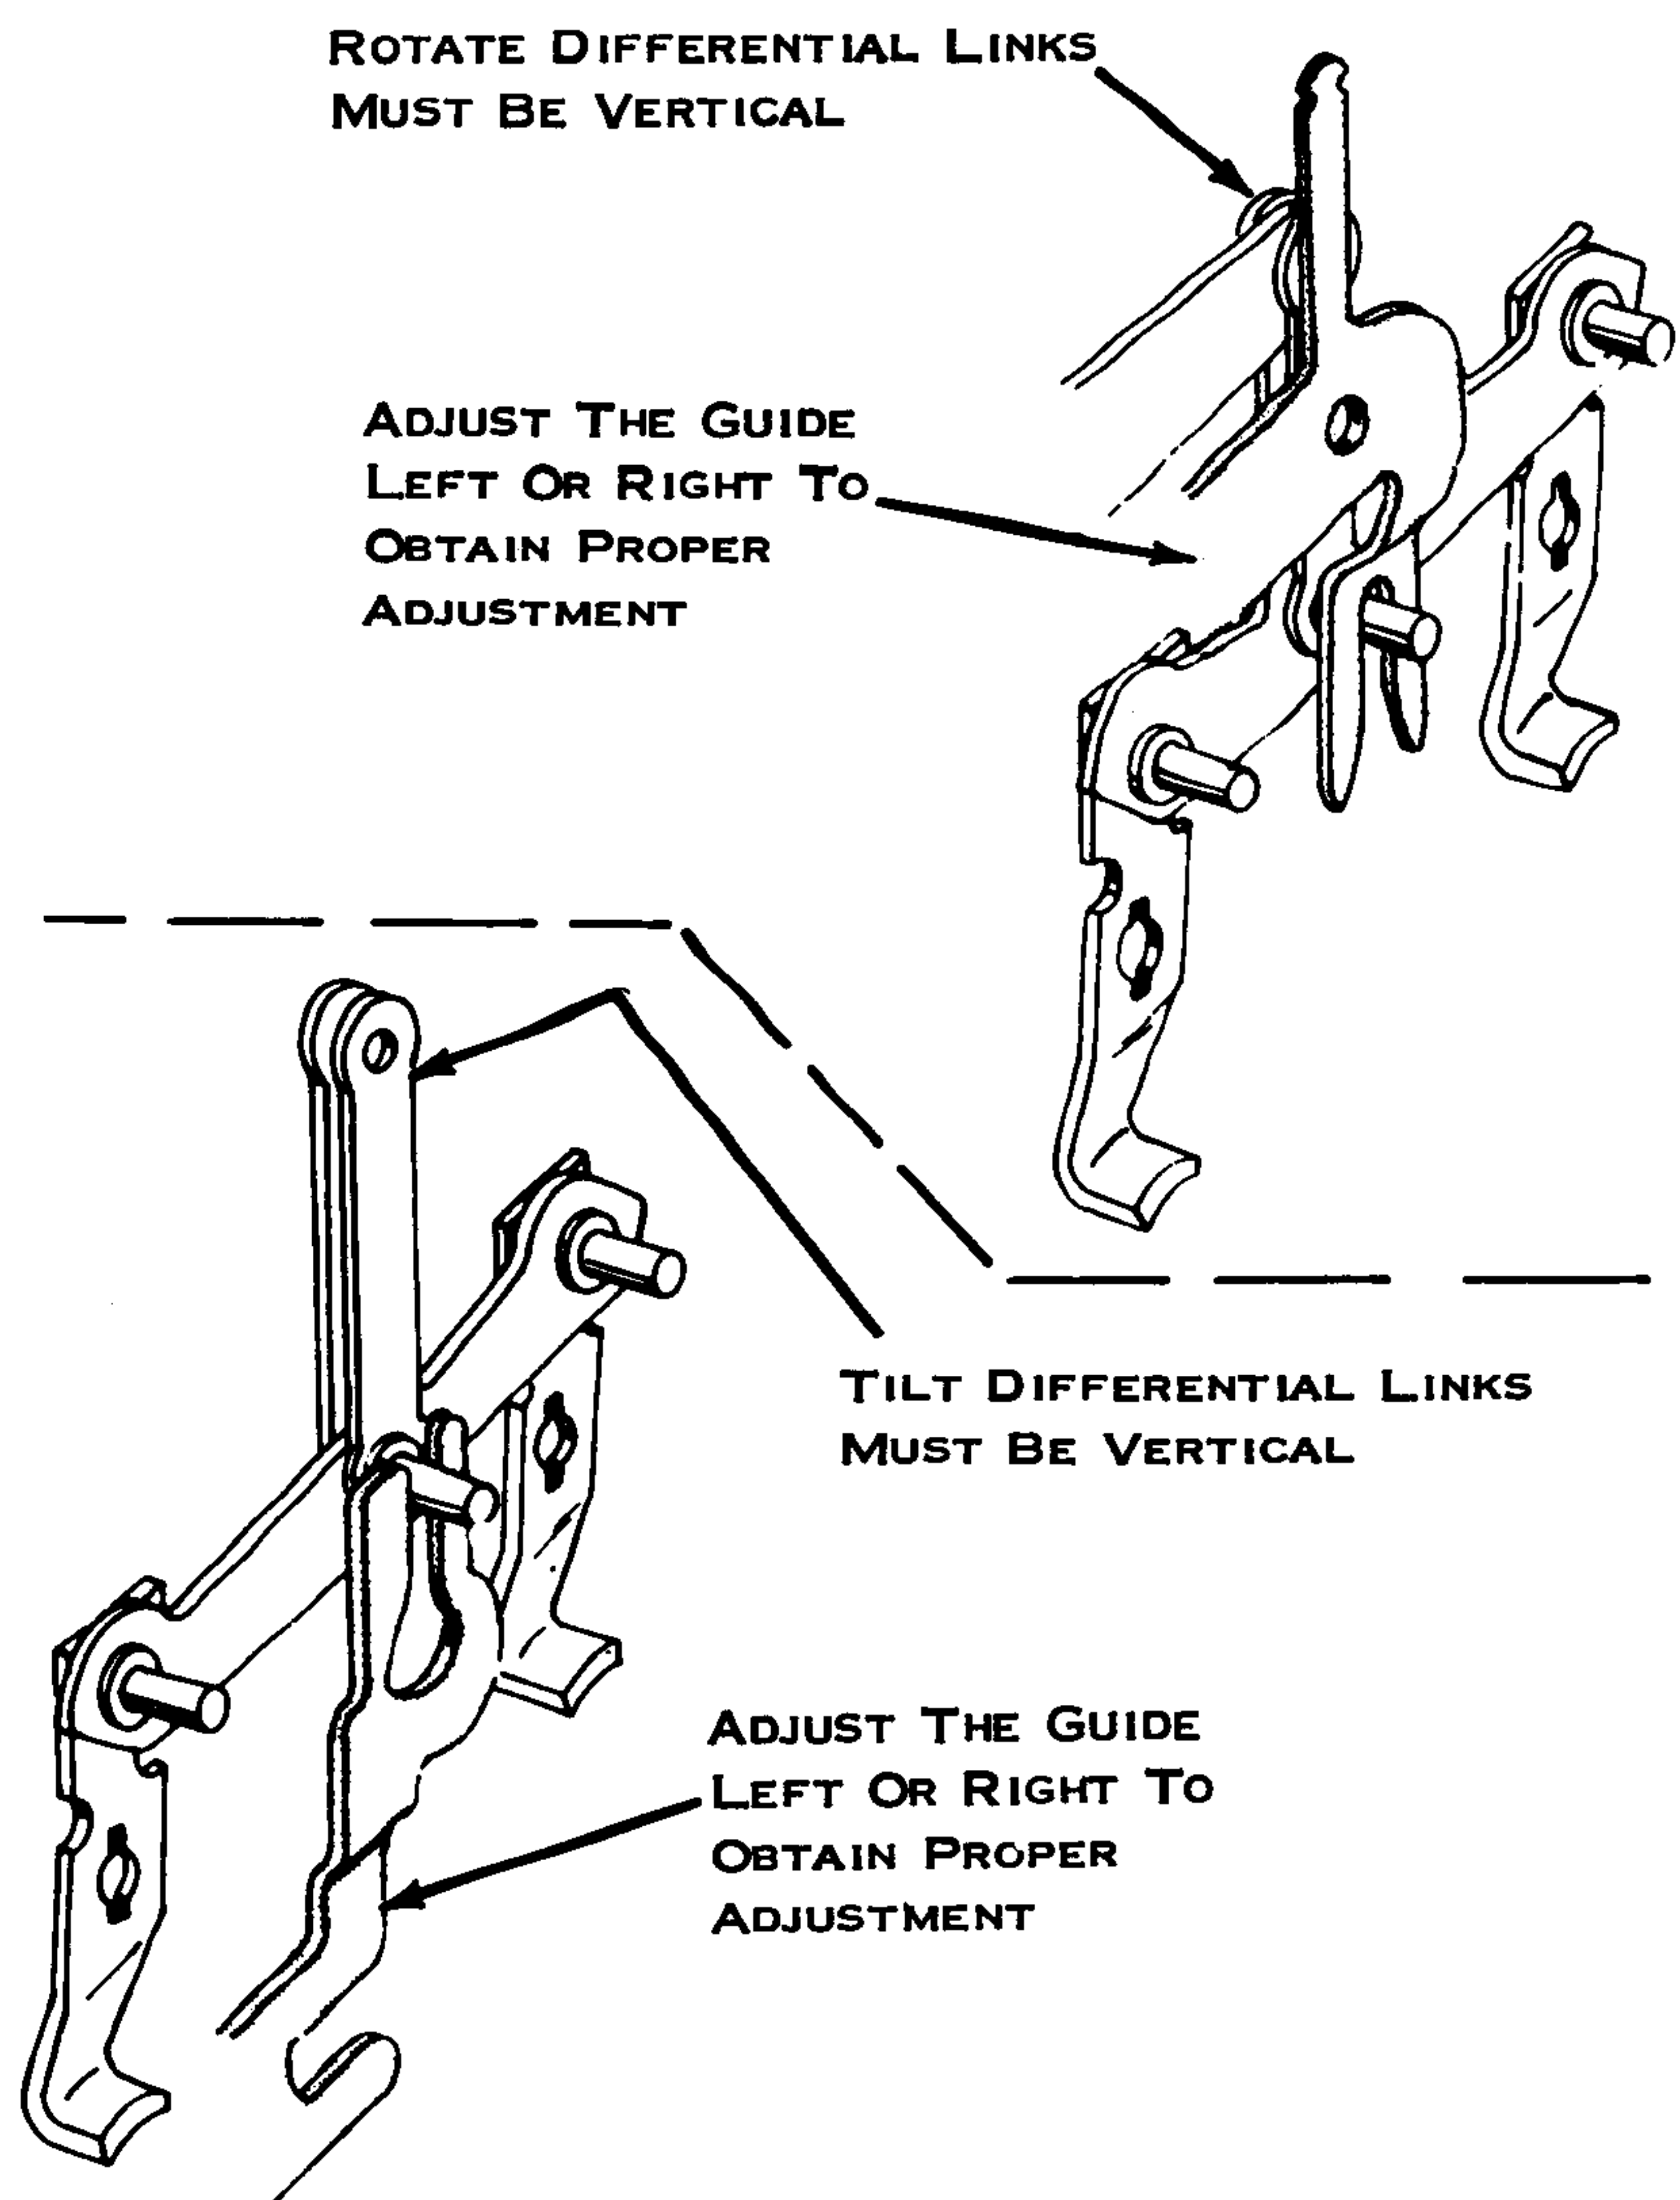

Figure 50. Selector Latch Guides
2. Selector Latch Guide (Fig. 50) - Adjust left to right so that the vertical links of the differential mechanism hang in a true vertical position.